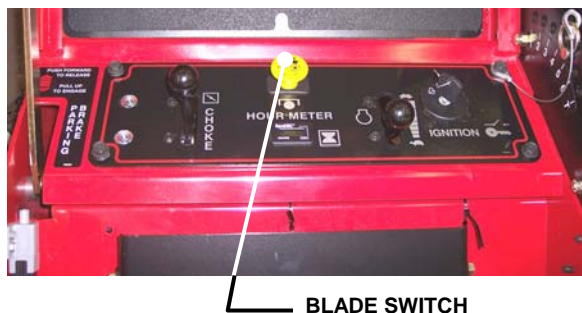

FIGURE 3.2
3.1.4. Check Blade Switch to insure it works freely. See Figure 3.2.
3. Push blade switch in to “OFF”, blades disengaged position and engage parking brake. See Figure 3.2.
2. Pull the Blade Switch up to the "ON" position to engage or turn "ON" the mower blades. See Figure 3.2.